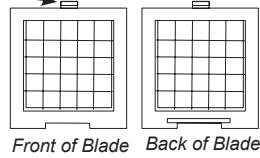

FIGURE 2
2. Slide the Knife Guide Tab into the path underneath the Base until it clicks securely into place (**FIGURE 2**).